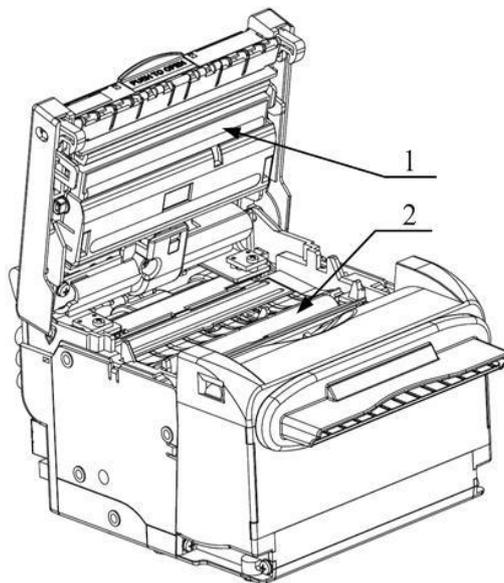

Fig. 5.2-2 Print head and platen roller cleaning
- 3) Refer to Fig.5.2-2, number 1 is the platen roller and number 2 is the print head. Wipe the surface with a soft cotton cloth dampened with alcohol.